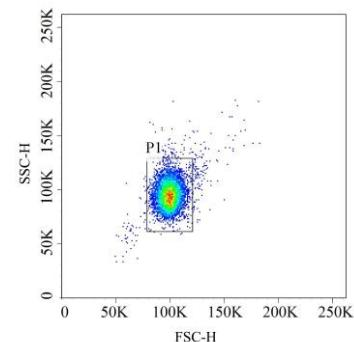

Figure 1
- Create an FSC-H/SSC-H scatter plot. Adjust FSC and SSC to identify the cytokine bead population using a rectangular P1 gate (Figure 1).